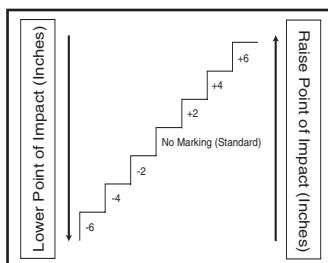

Figure 14
- f. Select a higher or lower rear sight from Figure 14.
- *Spare sights are not included with the pistol. Call HKI Customer (205) 655-8299 to purchase optional sights.**